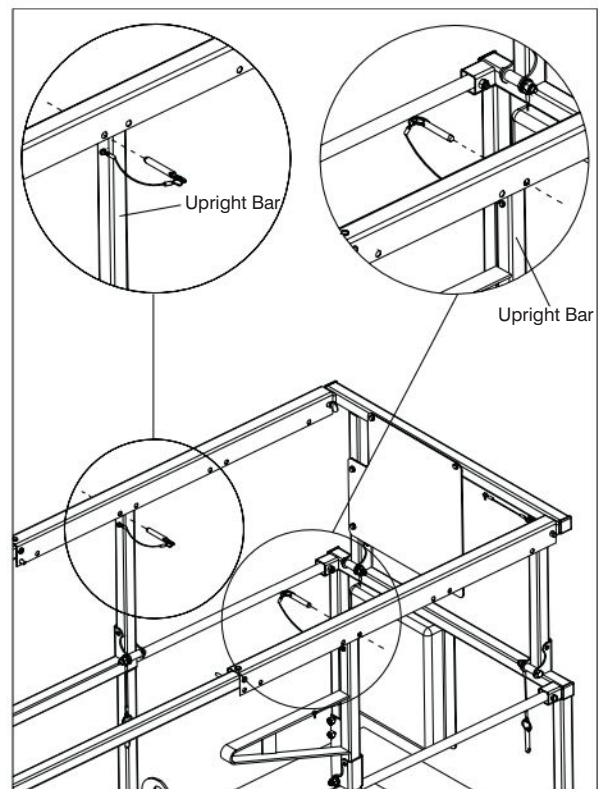

Figure 3-12. Variable Position Manual Extension Platform
2. Upon extension or retraction, reinsert locking pins. Insert pin on one side of MEWP in front of upright bar and the pin on the other side of MEWP behind the upright bar to prevent accidental movement, in either direction, of manual extension platform during travel or transport. Refer to Figure 3-12 for a configuration example.